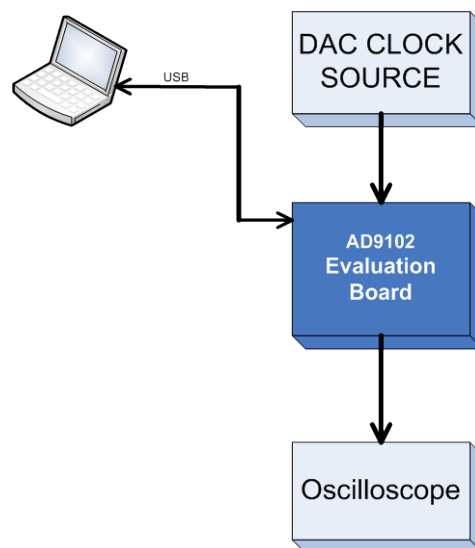

Figure 3: EVB Bench set up
2. Connect the EVB to your PC and lab equipment as shown in Figure 3 below. Use a USB cable to connect your PC to the EVB.